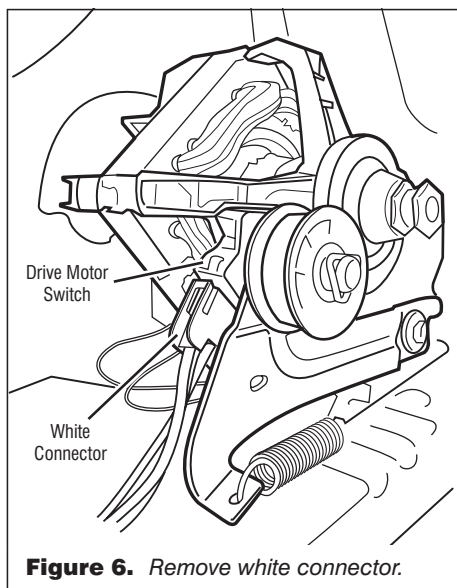

Figure 6. Remove white connector.
6. Remove the white connector from the drive motor switch. See figure 6.